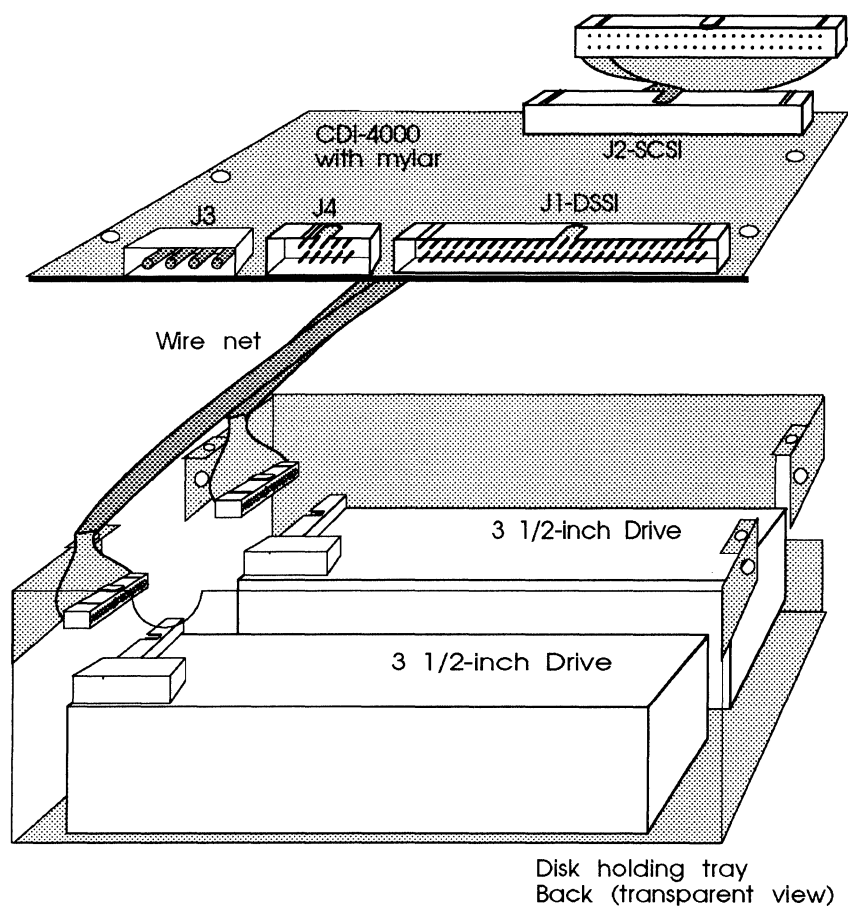

Figure 4-23: CDI-4000-SA2 SCSI cable connections
- 5 Locate the SCSI cable; connect the middle connector of the SCSI cable to J2 on the CDI-4000, and connect the two ends of the SCSI cable to the drives' SCSI connectors. See Figure 4-23.